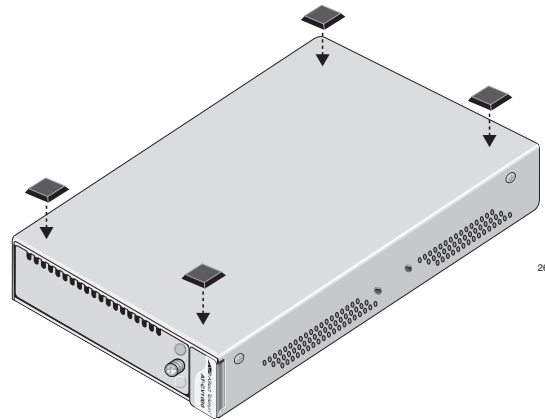

Figure 7. Attaching Rubber Feet
3. Attach the four self-adhesive rubber feet, included, to the bottom of the chassis, as shown in Figure 7.